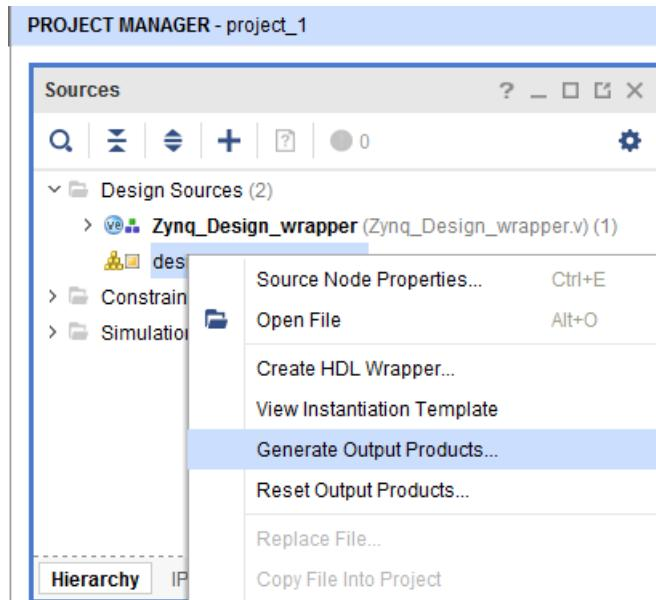

Figure 10-20: Generate Output Products
2. In the Sources browser in the main workspace pane, a Block Diagram object called **Zynq_Design** is at the top of the Design Sources tree view (*Figure 10-20*). Right-click this object and select **Generate Output Products**.